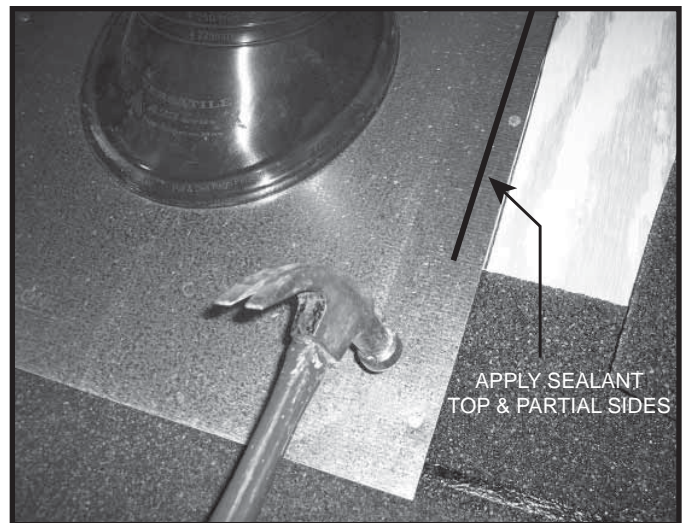

Figure 10.21 Slide Flashing Down, Secure & Apply Sealant
- Apply silicone sealant on the top and sides edges of the flashing. See Figure 10.21. Install shingles. Apply sealant at the top edge of the rubber boot. See Figure 10.22.